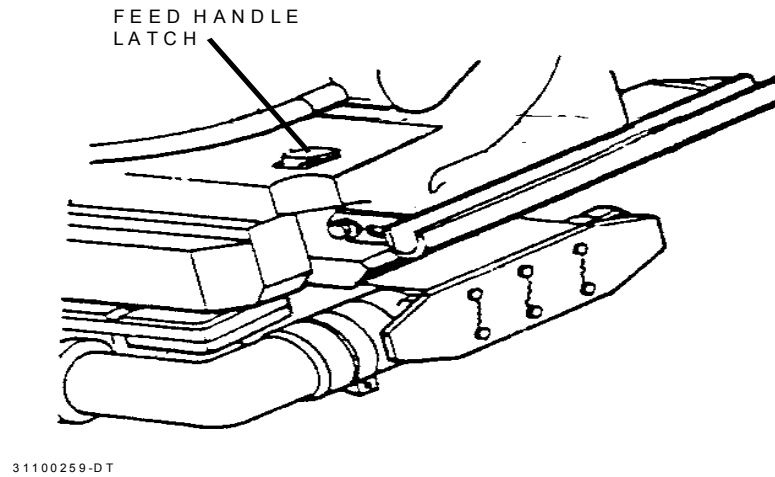

Figure 2-33. M2/M3 Feeder Handle Latch.
- d. Depress Feeder Handle Latch (Figure 2-33) on main gun receiver.